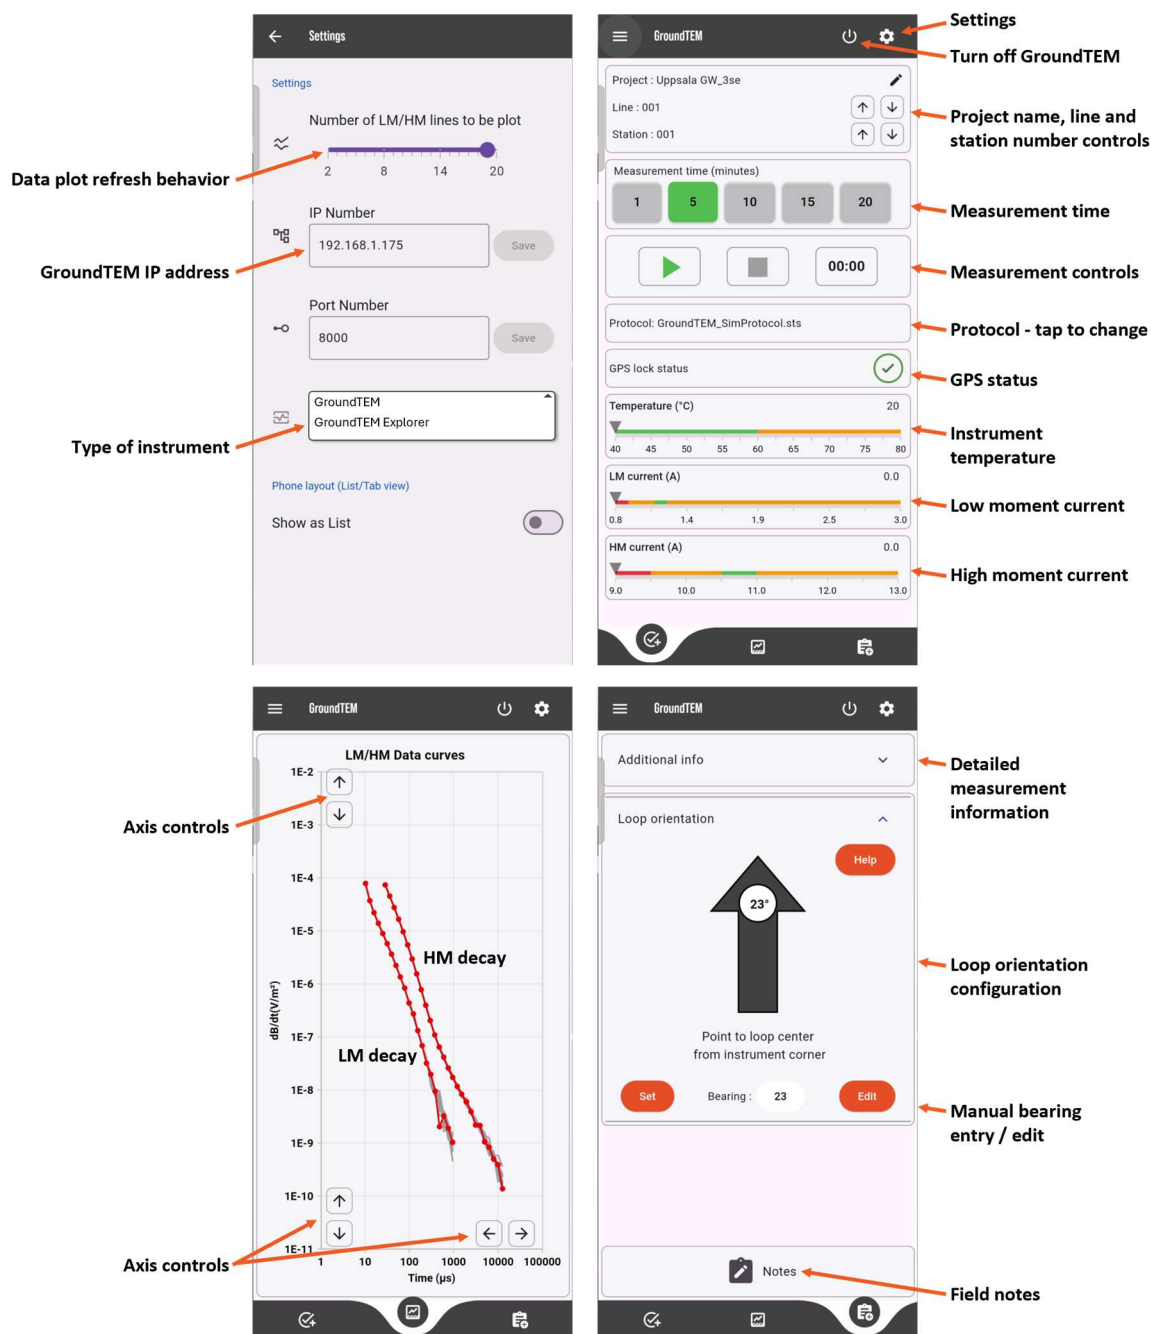

Figure 18. GroundTEM App environment. Version 1.1.0.
- Open the GroundTEM App, which should display the controller interface as shown in Figure 18, if properly connected.
Figure 18 explains the interface of the GroundTEM App.
- Check/load *Protocol*, see Figure 18. The previous used protocol is automatically loaded.
- The GroundTEM unit records the GPS position where the unit is placed. To correct the GPS-position to the centre of the Rx coil, the bearing (geographical direction) from the GroundTEM unit to the Rx coil centre is needed. When stopping a measurement, you will be prompted to set a bearing using the built-in compass of the mobile device. You can also set the bearing during a measurement from the *Additional* tab/*Loop Orientation* (see Figure 18).